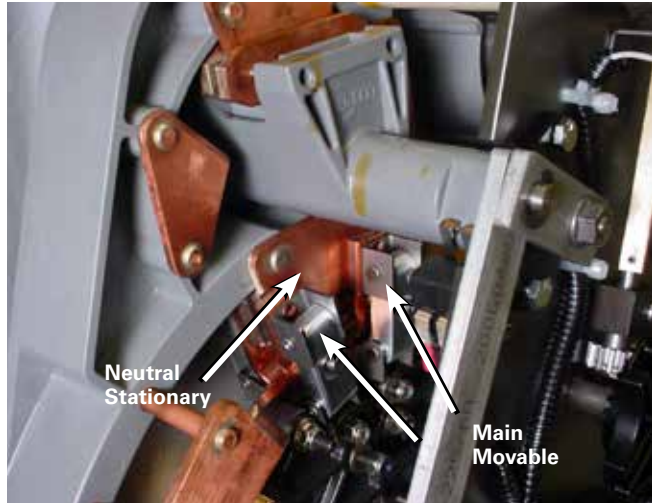

Figure 22. Neutral position for main movable contacts.
- A. Main movable contacts are located on the neutral stationary contact, which is located at the 11 o'clock position and under the reversing switch movable contact assembly. See Figure 22.